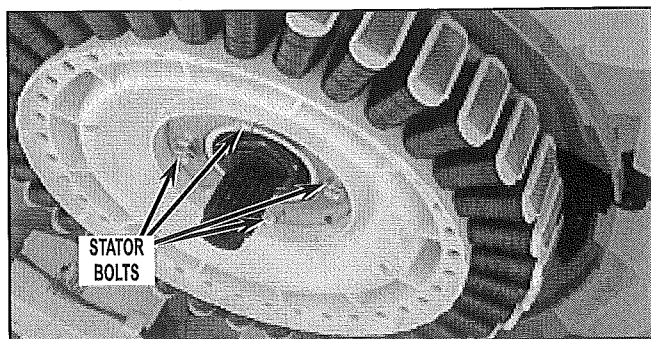

FIGURE 5
9. Remove four (4) stator bolts (5/16" or 3/8"). Unclip wire harness and remove stator. Set stator on a clean rag on the floor. See *Figure 5*.